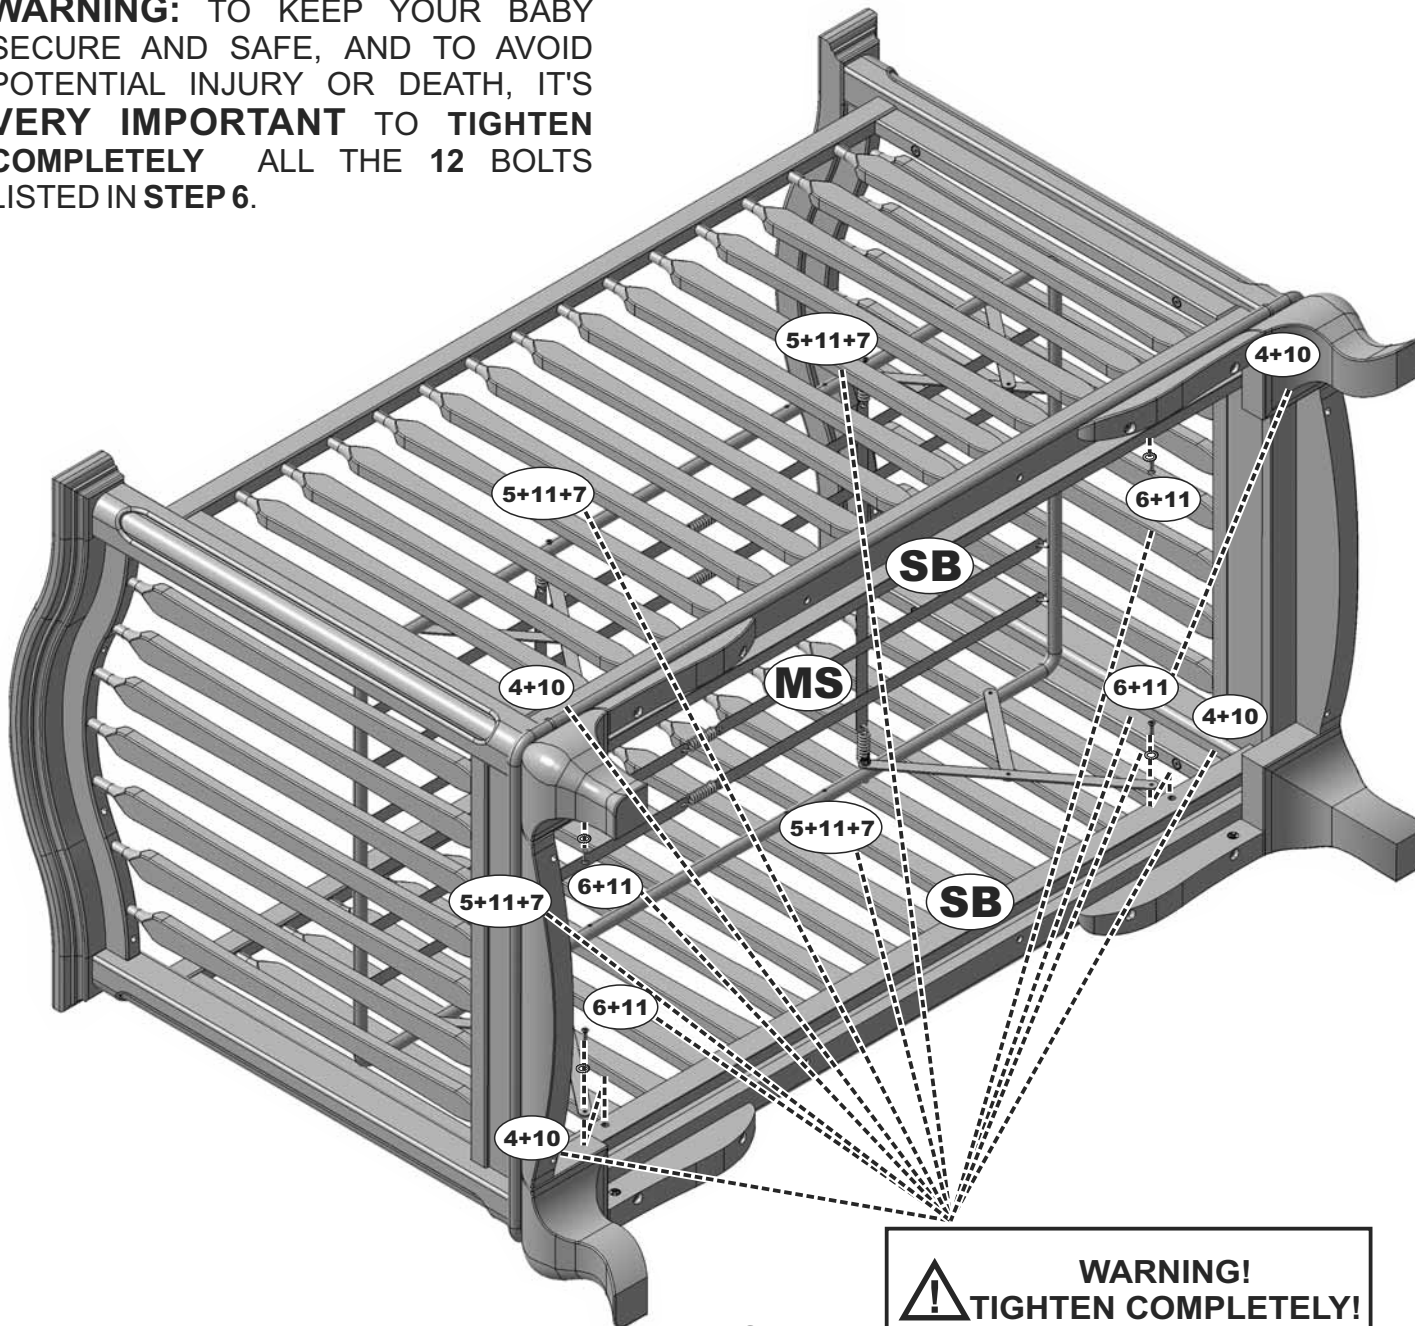

FIGURE 6
Take your crib as resulted after completing **STEP 4** and carefully place with one of the fixed sides (**FS**) on the floor, taking care not to scratch its finish. Using the supplied Allen wrench (1), **you must tighten completely** all the 4 bigger Allen bolts (**4+11**) used to fix the stabilizing bars (see **FIGURE 6**). Mount the mattress support (**MS**) on the stabilizing bars using the all the 4 smaller rounded head bolts (**6**), 4 washers (**11**) and a Phillips screwdriver (not supplied). The lock washer must be attached to the bolt before inserting the bolt through the metallic bracket of the mattress support. Now, **you must tighten completely** all the 8 bolts (**5+11+7**, **6+11**) involved in mattress support fixing using a Phillips screwdriver (not supplied) (see **FIGURE 6**).